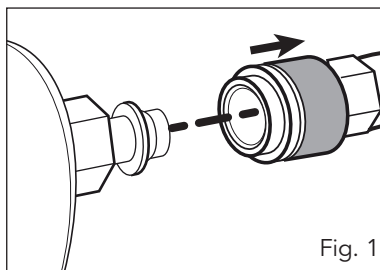

Fig. 1
1. Pull back the sleeve on female quick connector hose coupling, insert male end and release sleeve on quick connector (fig. 1).